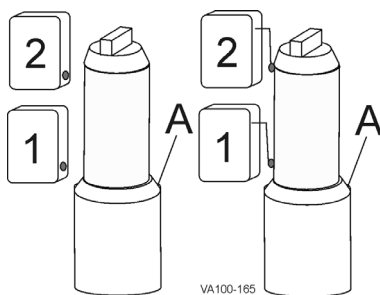

Figure 64 - Valve Closed Adjustment
4. Lower the stem to close the valve and adjust the target of the lower switch to slightly above the stem shoulder (Figure 64). Tighten the cap screws securely.